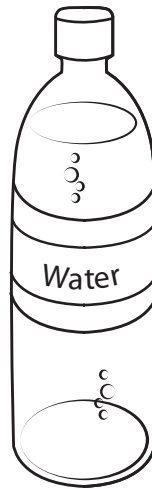

Figure 1
- 1 Figure 1 shows a bottle made of polyethylene terephthalate (PET).